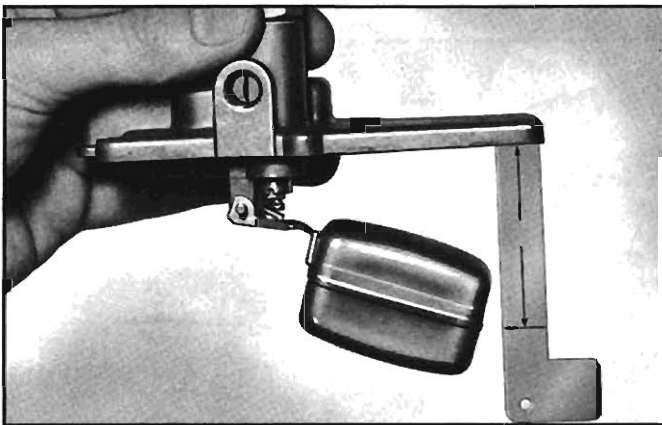

Fig. 29—Measuring Float Drop
6. Measure the distance between cover gasket surface and bottom of float at free end (fig. 29). This FLOAT DROP dimension should be $2\frac{3}{8}$ " \pm $\frac{1}{16}$ ".